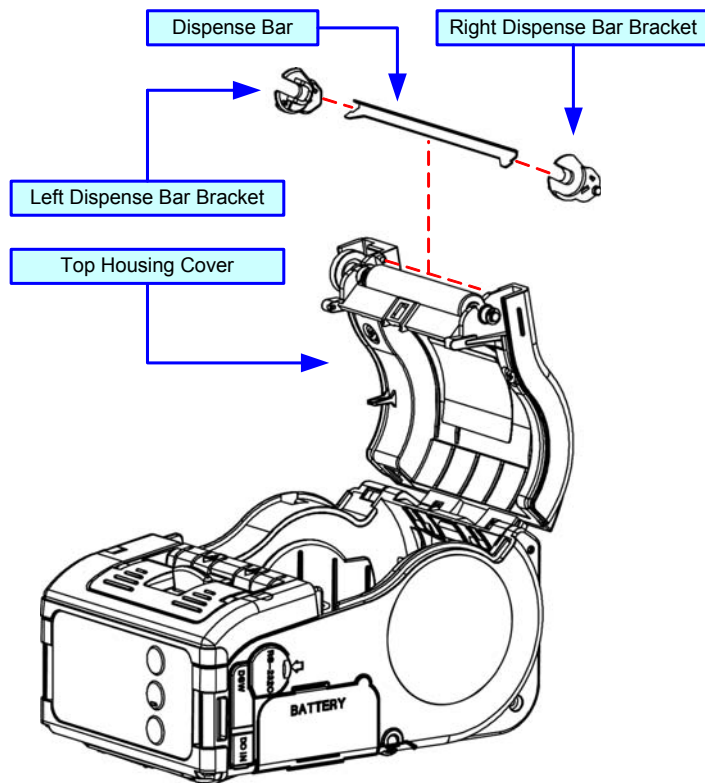

Figure 7-2b, Dispense Bar Replacement
- 5 Repeat step 4 for the opposite end of the bracket and lift free the assembly (Figure 7-2b).